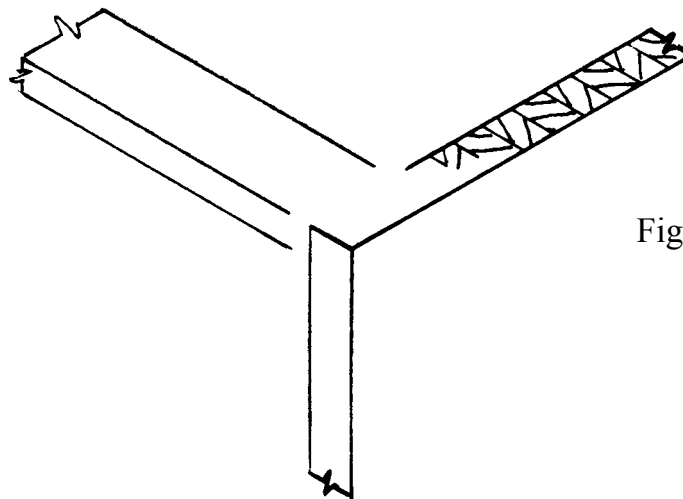

Fig. 4
34. Complete figure 4 to indicate which type of handcut joint would be used between the end panel and the top front rail of a free standing kitchen floor unit.